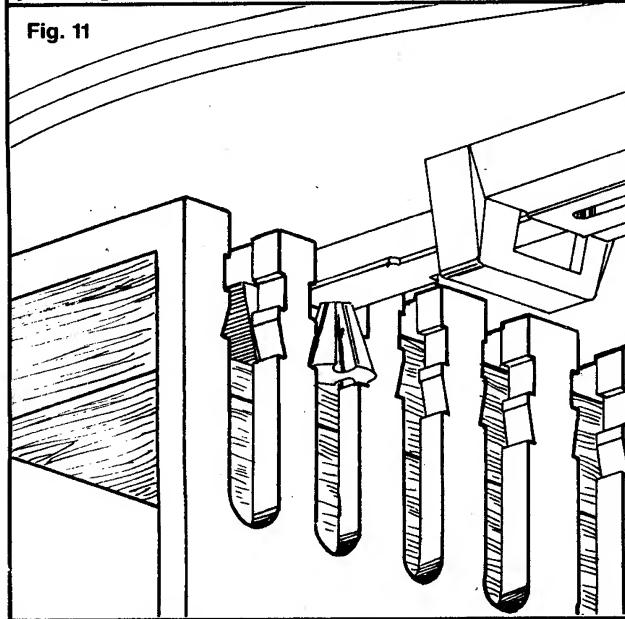

Fig. 11
6. Fit guide on the bottom of the router base plate into first horizontal (far left) slot on the template where the wood is to be cut (Fig. 11). This system will prevent the bit from contacting the template, and help assure a precision cut.